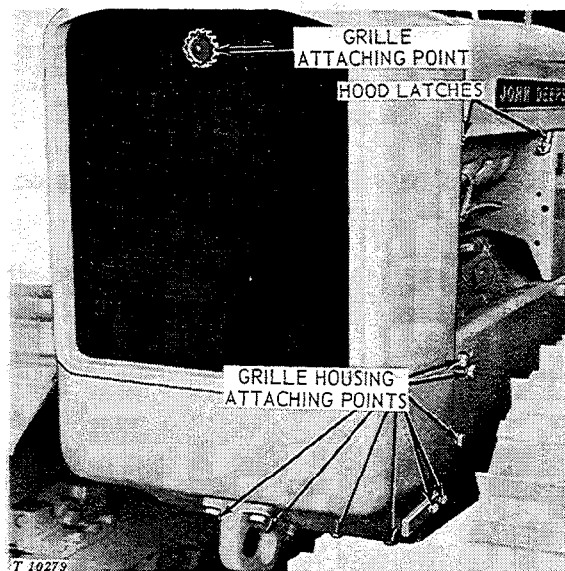
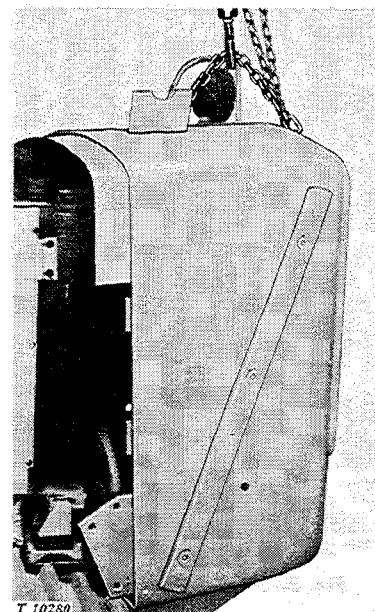

Fig. 20-5-1—Hood and Grille Housing Attaching Points
Fig. 20-5-2—Removing Grille Housing
2. Remove grille by unscrewing knob (Fig. 20-5-1). Attach chain hoist to grille housing (Fig. 20-5-2).
Install grille housing over front end support with all baffling in place. Secure front end support to bottom plate and side frames with attaching cap screws and lock washers (Fig. 20-5-1).